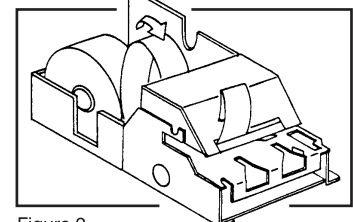

Figure 2.
- Fold back the paper about 6 inches in insert the folded end into the feed slot just behind the printer. Press the **DETAIL FEED** key until the paper has fed through the printer. (Figure 2.)